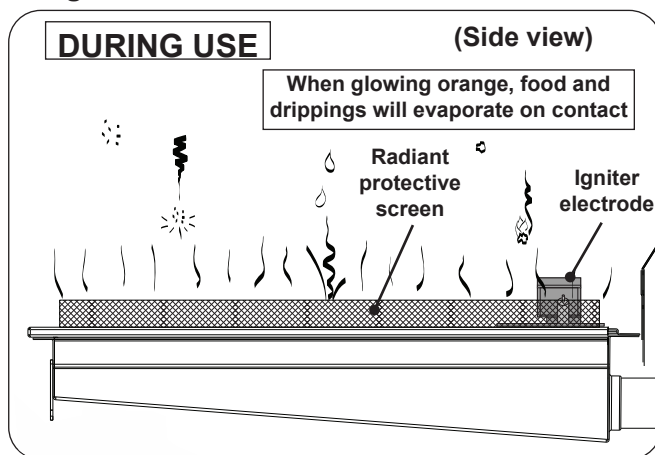

Fig. 39-3 Infrared burner - DURING USE
- **DO NOT place food on the cooking grid until the infrared burner glows orange (Fig. 39-3).** Drippings are heated and evaporate instead of sticking to and impairing burner function.